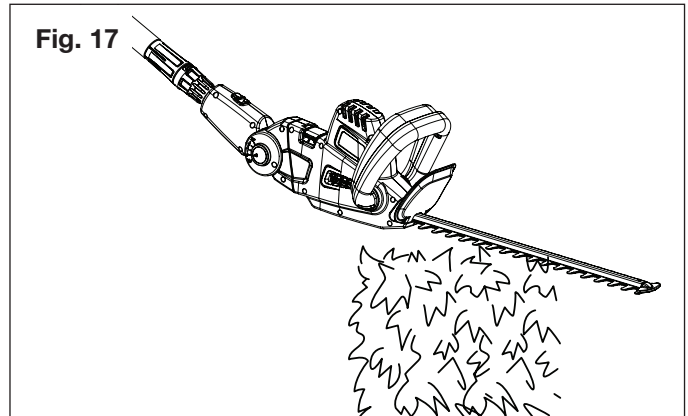

Fig. 17
2. To use pole hedge trimmer for trimming the bottoms and sides of hedges and shrubs, hold the pole trimmer at the position shown below (Fig. 17).